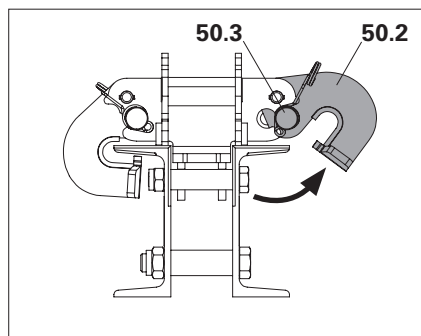

Fig. D5.02
3. Fold up guiding skids (50.2). (Fig. D5.02 + D5.02a)